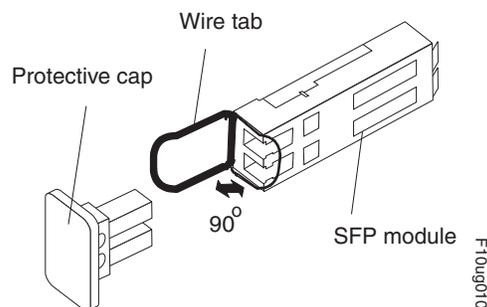

Figure 84. Unlocking the SFP module latch - wire variety
- For SFP modules that contain wire tabs, unlock the SFP module latch by pulling the wire latch outward 90°, as shown in Figure 84.